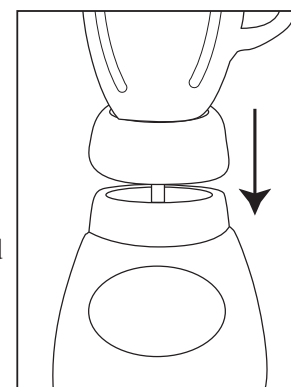

FIGURE 5
- Place jar assembly onto base. (Figure 5)